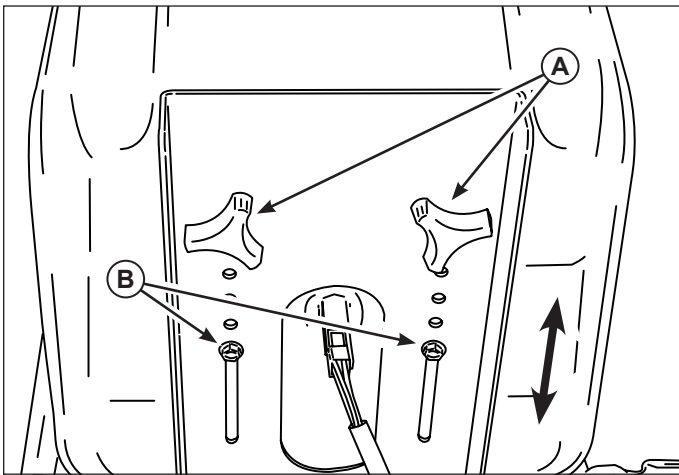

Figure 12. Seat Adjustment
Remove the knobs (A, Figure 12), and loosen the support bolts (B). Slide the seat to the desired position, then reinstall the knobs and retighten the bolts.